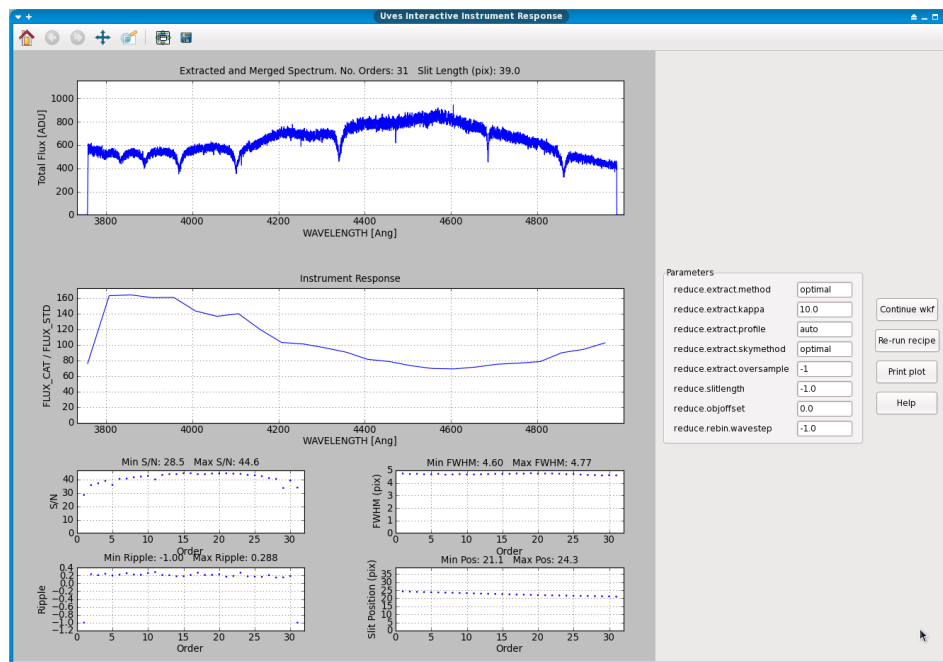

Figure 6.0.6: *The interactive window for the `Instrument Response` actor.*
13. **Instrument Response:** The standard data sets supplied with Reflex 1.1 do not include standard star observations. Hence the `Instrument Response` actor will not be executed, and the corresponding interactive window will not appear. In Figure 6.0.6 we show what this interactive window looks like. The usage and purpose of the `Instrument Response` interactive window are the same as for the `Spectrum Extraction` interactive window which we describe in detail in the next few steps, and so no more information on this window is given here in the tutorial.